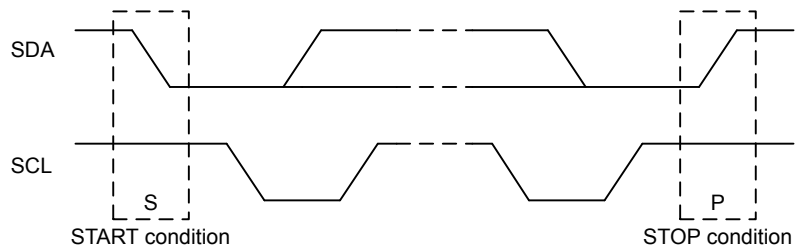

Figure 17.4. I2C START and STOP Conditions
START and STOP conditions are used to initiate and stop transactions on the I²C-bus. All transactions on the bus begin with a START condition (S) and end with a STOP condition (P). As shown in Figure 17.4 I2C START and STOP Conditions on page 449, a START condition is generated by pulling the SDA line low while SCL is high, and a STOP condition is generated by pulling the SDA line high while SCL is high.